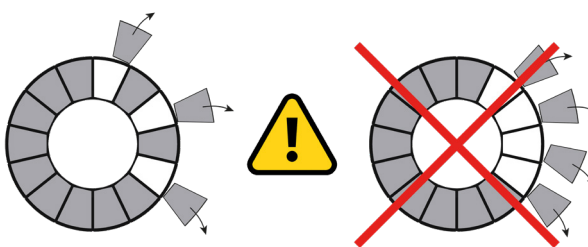

Figure 7.23 Correct way of changing filter panels.
**NEVER** remove or re-fit all filter panels on just ONE side of the disc, see Figure 7.23.